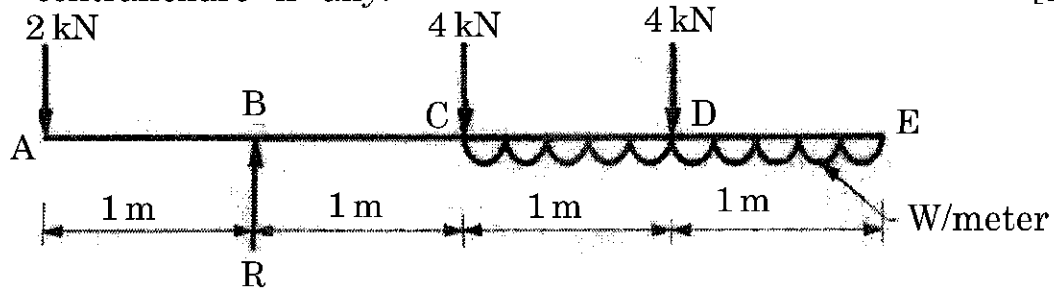

Fig. 1
- (b) A beam ABCDE is loaded as shown in Fig. 1. Determine value of R and W . Draw SFD and BMD. Also find the point of contraflexure if any. [10]